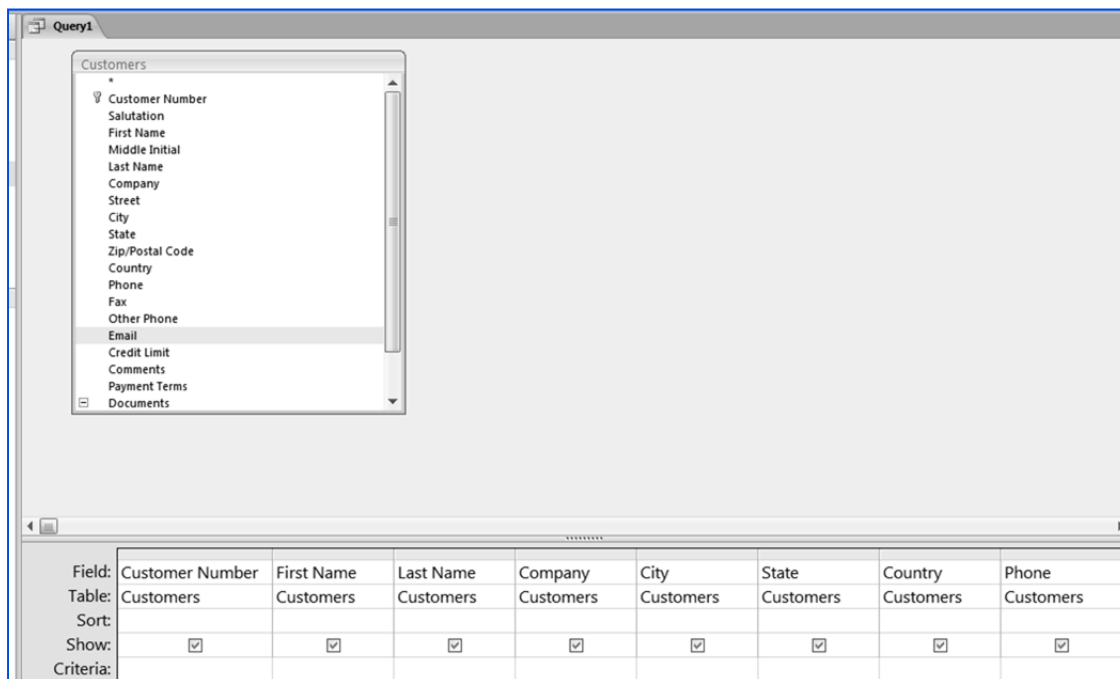

Fig. 3.3.13. Specify Require Fields
3. Select *Customer Number*, *First Name*, *Last Name*, *Company*, *City*, *State*, *Country*, and *Phone* from *Customers* and drag them to the *Columns* tab. The *Query* window appears, as shown in Fig. 3.3.13.